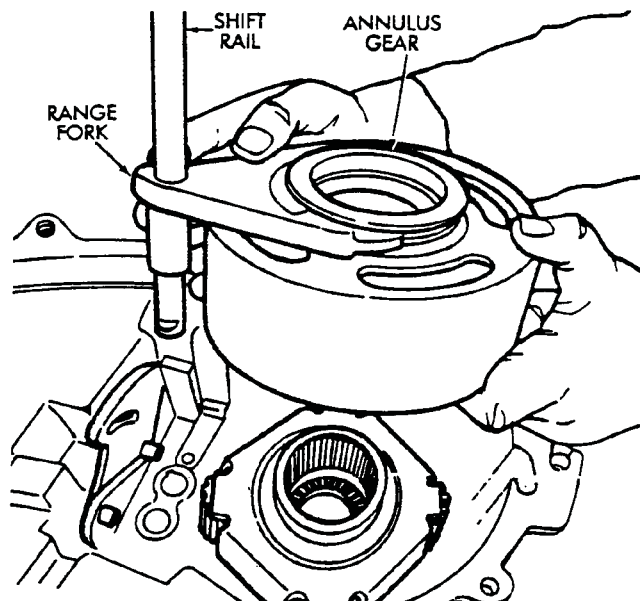

Fig. 4-19 Remove Annulus Gear, Range Fork and Shift Rail
26. Remove annulus gear, range fork and shift rail as assembly (Fig. 4-19). Separate components for cleaning and inspection.